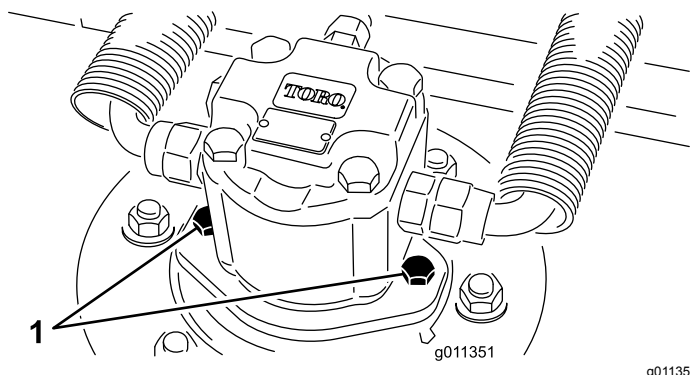

Figure 64
2. Disconnect and remove the hydraulic motor from the deck (Figure 64). Cover the top of the spindle to prevent contamination.
4. Install the hydraulic motor to the deck (Figure 64). Make sure that the O-ring is in position and not damaged.